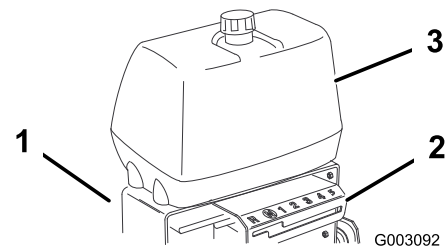

Figure 4
2. Slide the shift lever plate over the shift lever and under the bottom of the rear frame (Figure 4).
3. Align fuel tank with the top of the rear frame (Figure 4).